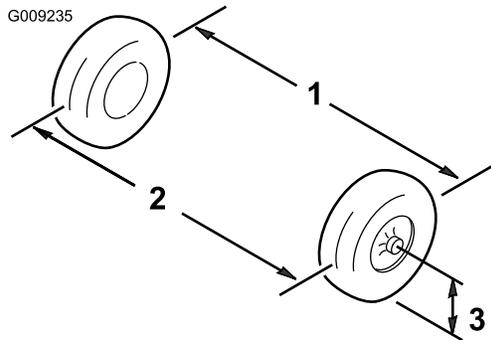

Figure 49
5. Measure the distance between both of the front tires at the axle height at both the front and rear of the front tires (Figure 49).